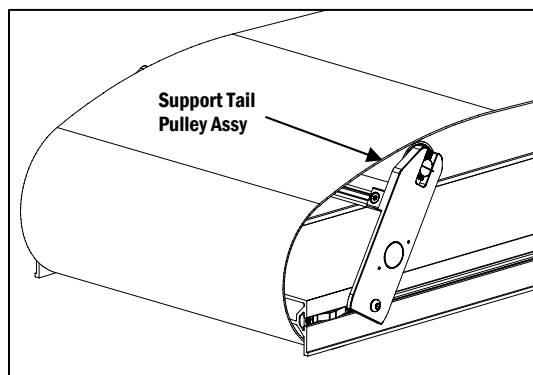

Figure 2
c. Remove tension from the belt by rotating the Tension Release Tail Assembly completely up to the disengaged position while supporting the Tail Pulley. Remove the tail pulley from the tail assembly by lifting it upward and setting it aside temporarily, making sure to place it where it cannot be dropped or damaged. Note the orientation of the Tail Pulley Assy when removed to ensure that it is reinstalled in the same position. The Tension Release Tail Assembly will then rest in the up, unlocked position (**Figure 2**).